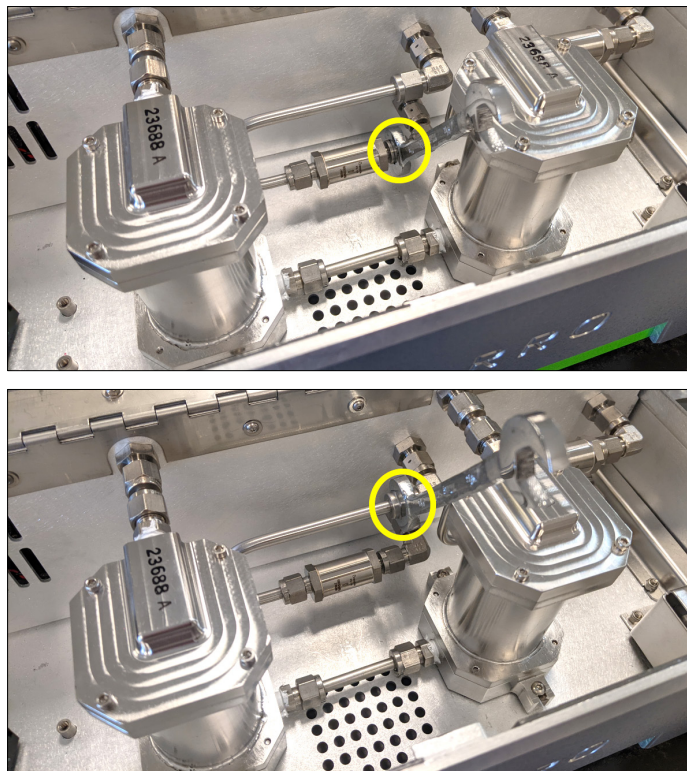
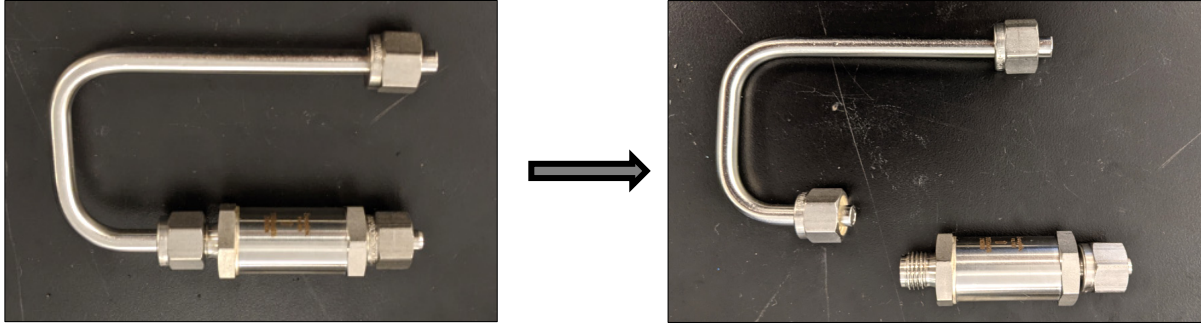

Figure 59: Disconnecting Filter with Attached Formed Tubing
Figure 60: Disconnect Formed Tubing from Filter
- Disconnect the two Swagelok connections shown in Figure 59 and remove the filter along with the formed tubing (Figure 60).
7. Tighten the two Swagelok connections shown in Figure 59. (Recommended Swagelok tightening is 1/4 turn past finger tightened.)